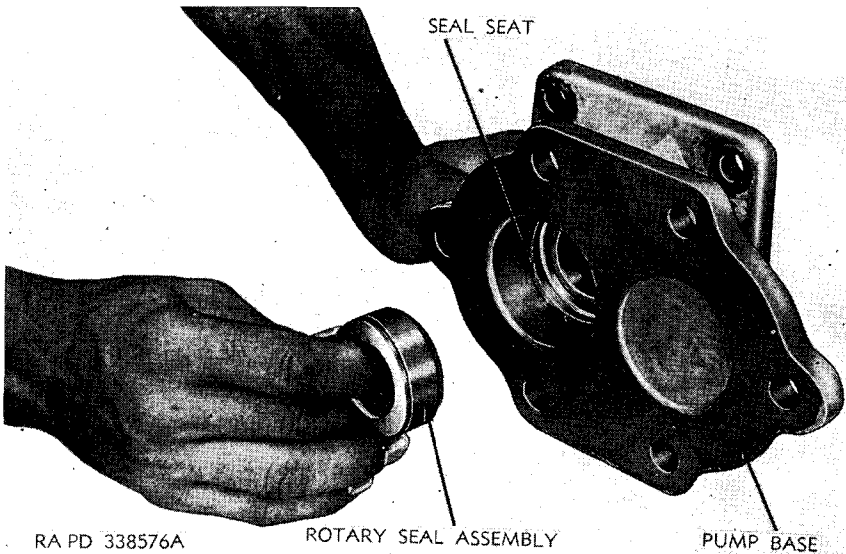

Figure 66. Removing oil seal assembly from pump base.
f. REMOVE SEAL ASSEMBLY. Remove spring from drive gear shaft. Remove drive shaft seal assembly from pump base (fig. 66).